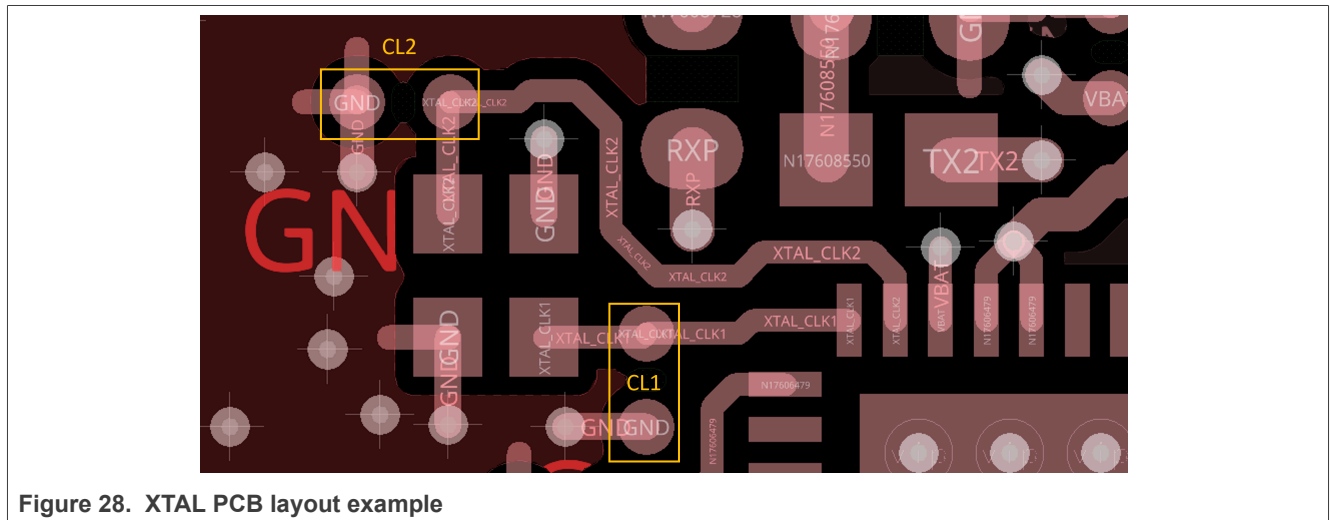

Figure 28. XTAL PCB layout example
- PCB layout (see an example in Figure 28):
Find an example of PCB layout in Figure 28.